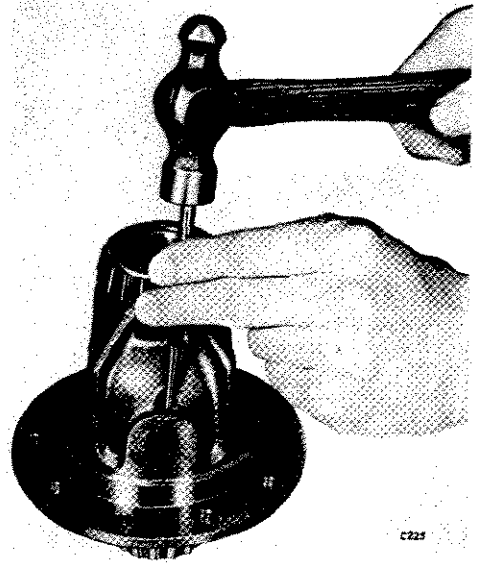

Fig. 84.
Align the locating hole in the cross shaft (3) with the drilling in the cage and fit the locking pin (6). Peen over the side of the locking pin hole to prevent dislodgement of the pin (Fig. 84).